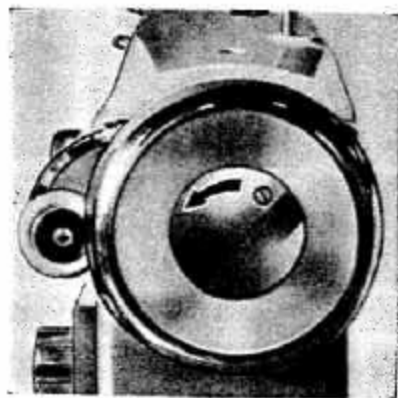

Fig. 3
1. Loosen the two hinge screws under the holes in the rear edge of the machine bed. (Fig. 3)
Disengage the hand wheel (Fig. 3) from the stitching mechanism by turning the clutch toward you or counter-clockwise.